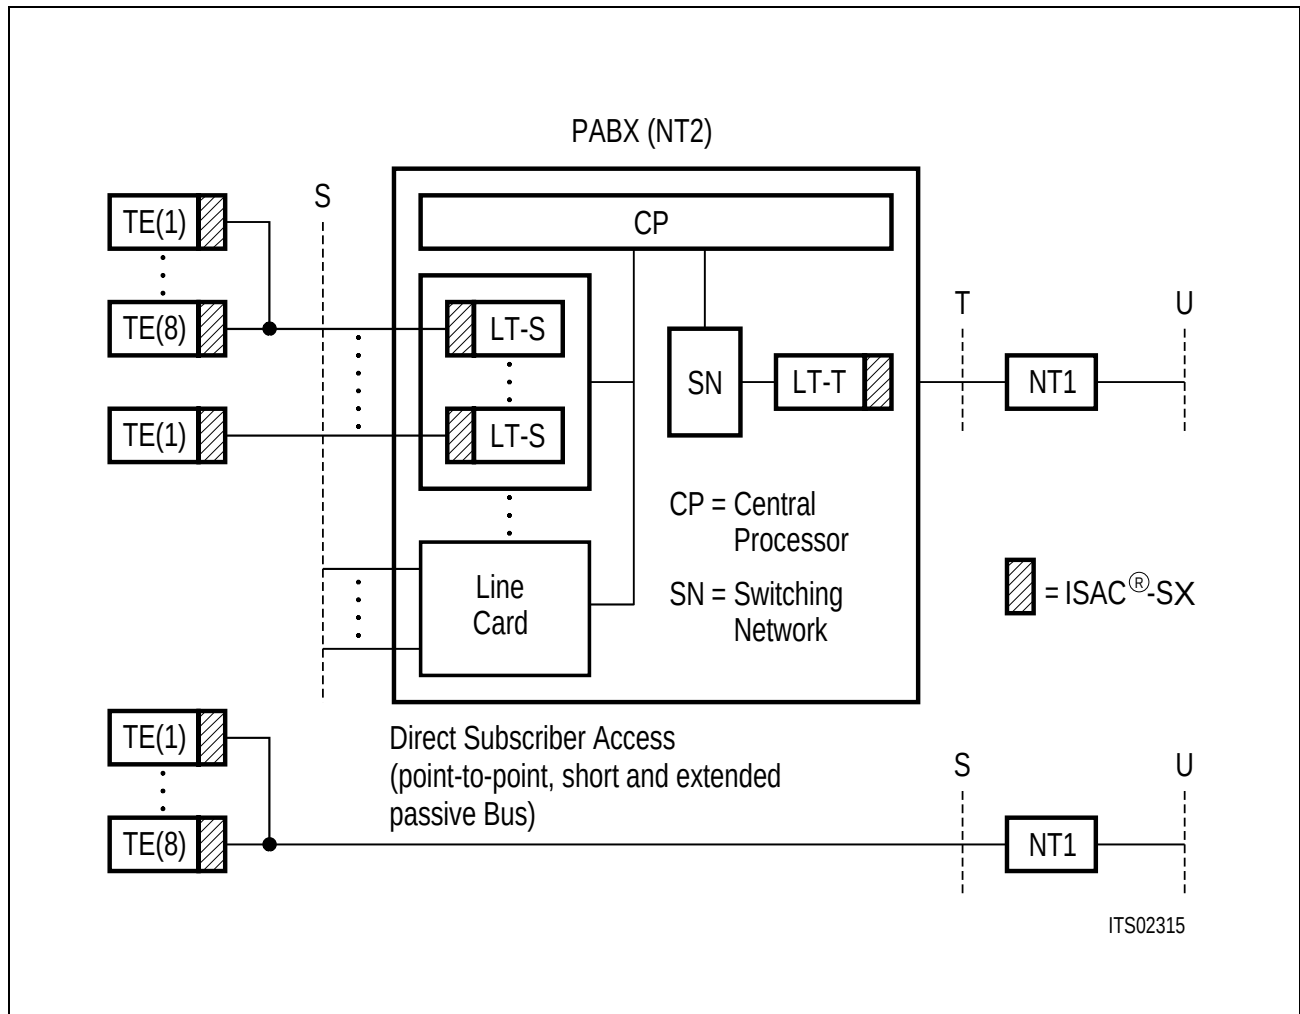

**Figure 2 Applications of the ISAC-SX**
**Figure 2** illustrates the general application fields of the ISAC-SX.